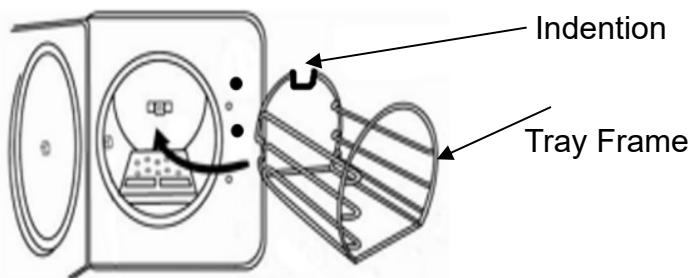

Figure 6
D. Install the tray frame as Figure 6. (optional accessory)
**Caution:** The frame should be installed as Figure 6 below. The indentation of the frame will pass the bushing in the chamber.